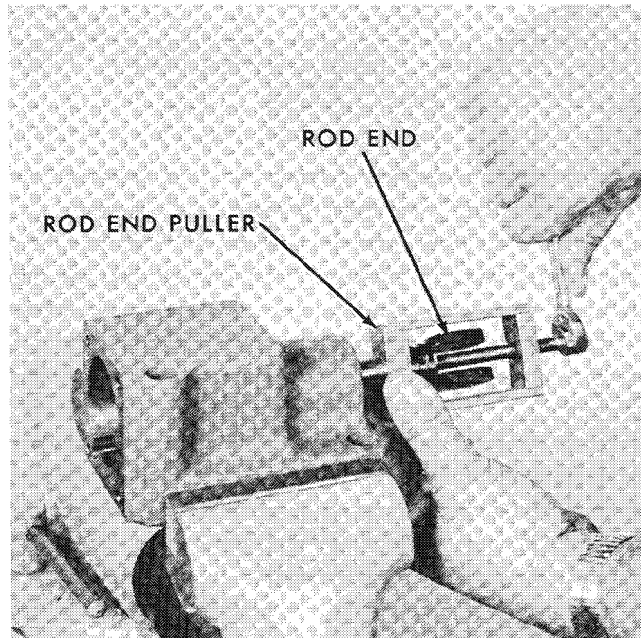

Figure 3-1
1. Remove speeder spring (67).
2. Lift out the flyweight head-pilot valve bushing assembly. (items 66 through 106).
- a. After detaching the flyweight head (item 98, take out snap ring (86) to permit removal of items (87) and (90).
3. Remove snap ring (65) and items (60) through (64).
4. Remove four screws (112) and lockwashers (113) to detach the power cylinder assembly (items 1 through 24).
- a. Use a rod end puller tool (Woodward tool 012281) to remove fuel rod end (24). See Figure 3-1 for use of puller.